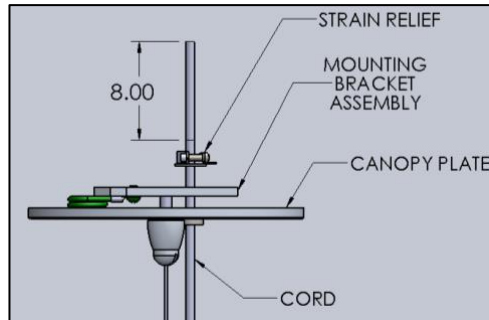

FIG. 39 – CORD INSTALLATION DETAIL
30. Feed the CORD through the corresponding hole in the MOUNTING BRACKET ASSEMBLY. Adjust CORD to desired length and mark the CORD. Make sure to leave minimum of 8.00" past the top of the STRAIN RELIEF for making wire connections to driver as shown below in FIG 39.